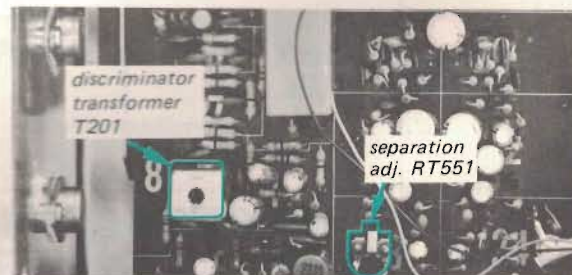

Fig. 3-15 Parts location
5. The output-level to residual-level ratio represents the separation. Adjust separation adj. control RT551 (See Fig. 3-15) for minimum residual level. Check the right channel for separation. Usually, about an 8 to 9 dB difference in channel separation exists. Readjust RT551 for minimum difference between left-and right-channel separation. While doing this, remember that the output level also changes according to the setting of RT551.